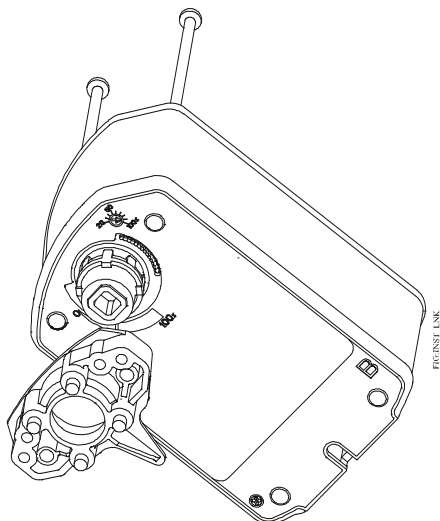

Figure 7: Installing the Linkage
5. Install linkage base on Side B using the two #10-14 x 2.75 in. long screws (Figure 7). The recommended torque is 20 to 24 lb-in. (2.3 to 2.7 N-m).